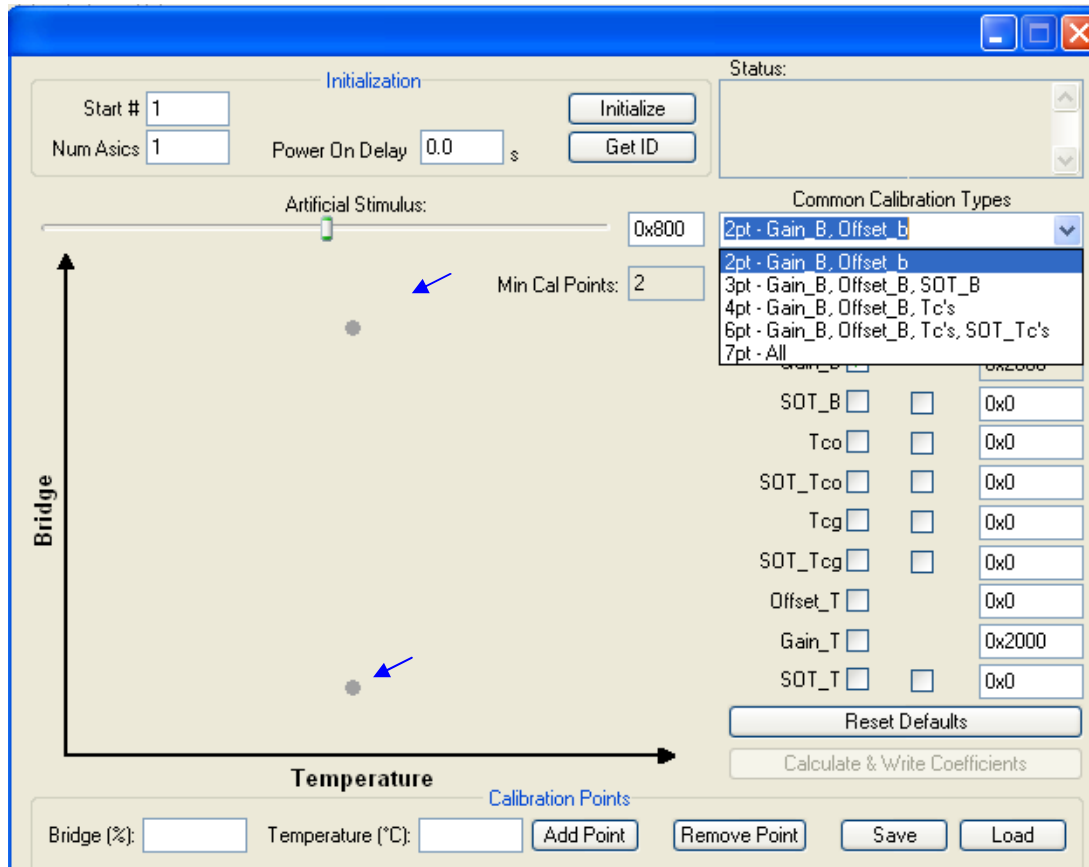
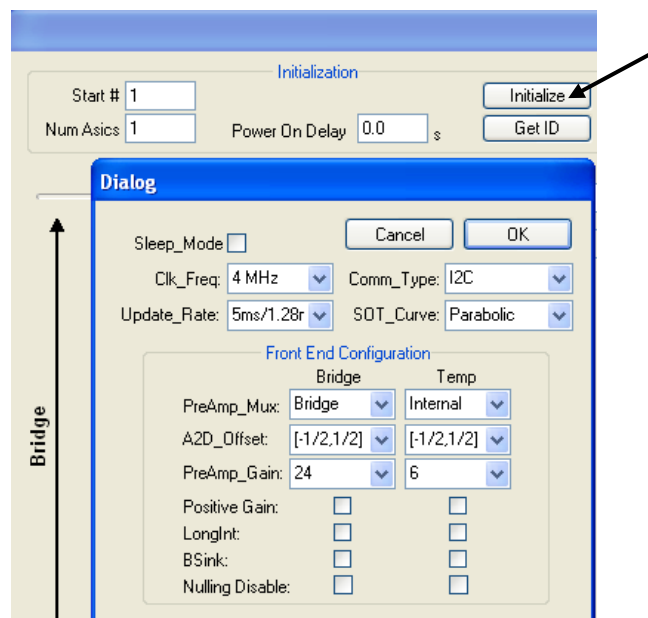

Figure 4.3 – Calibration Window
Figure 5.1 – Initialization Configuration Dialog Box
The software ZMD provides with the SSC Evaluation Kit is intended for demonstration purposes and calibration of single units. ZMD can provide customers with algorithms and assistance in developing their full production calibration software. For the following steps, refer to the calibration window shown in Figure 4.3.
In the top middle of the calibration screen (see Figure 4.3), click on “Initialize.” In the resulting dialog box (see Figure 5.1), verify or correct the configuration for the ZMD31014 RBic_{iLite} under test and then click OK to initialize the part. The part is assigned a unique ID, which is used as an index in the database. This unique ID is also programmed into the EEPROM Cust_ID0 and Cust_ID1 registers. The software automatically loads and writes unity values for Gain_B and Gain_T to the EEPROM and set the Offset_B to an ADC_Offset related value. All other coefficients are set to zero. The raw data are collected with these settings in NOM.
Next, select the type of calibration required from the “Common Calibration Type” pull-down menu in the top right of the calibration screen (see Figure 4.3). The number of unique points (for this example, pressure and temperature points) at which calibration must be performed depends on the user’s requirements. The minimum is a 2-point calibration, and the maximum is a 7-point calibration.
In the left section of the calibration screen (see Figure 4.3), there is a graph (X-axis = Temperature, Y-axis = Bridge). This graph outlines the recommended spread of points (pressure for this example and temperature) to be used for calibration.
Based on statistical sensor measurements, a customer can decide to reduce the calibration costs by setting user-selected default values for various calibration coefficients instead of using the calibration measurements. In this case, enter the default values to be used for the selected calibration method in the coefficient entry fields at the right of the calibration screen (see Figure 4.3). These fields will not be calculated by the chosen calibration method. The calculation is disabled if there are entries for all defaults.
- **Enter the target bridge readout in % (in this case, pressure) in the “Bridge (%)” field under “Actual.”** (See Figure 5.1.)
- 6.) Click on “Calibration.” The calibration window appears (Figure 4.3).
- 9.) The next step is to start data collection. Normally this would be done with a real bridge attached to the RBiC_{iLite}TM on a remote board in a controlled chamber. Instead, this dry run calibration uses the artificial bridge inputs controlled by the on-board DAC. The DAC is controlled by the “Artificial Stimulus” slider bar or its adjacent entry field at the top of the calibration window (see Figure 4.3).